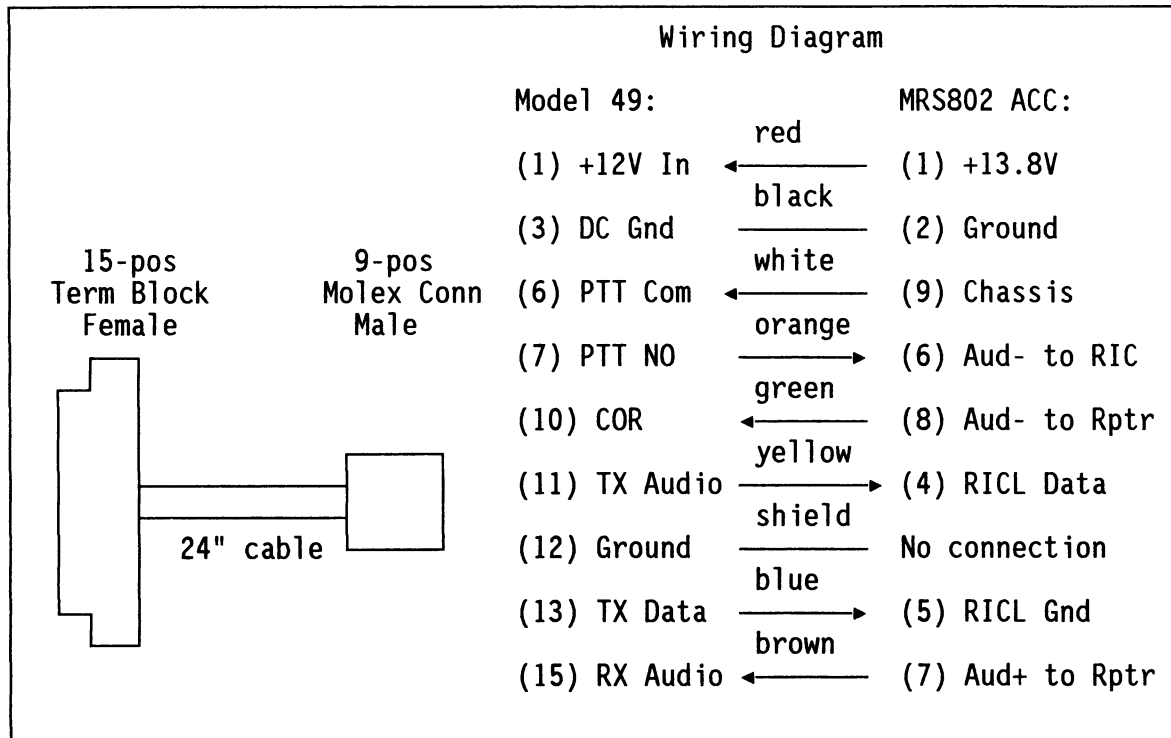

Figure 4-24. Model 49 to Uniden MRS802 Repeater Cable (P/N 709-7147)
- [] 8. Connect the Model 49 to the MRS802 ACC (ARX780) connector with repeater cable. See Figure 4-24.